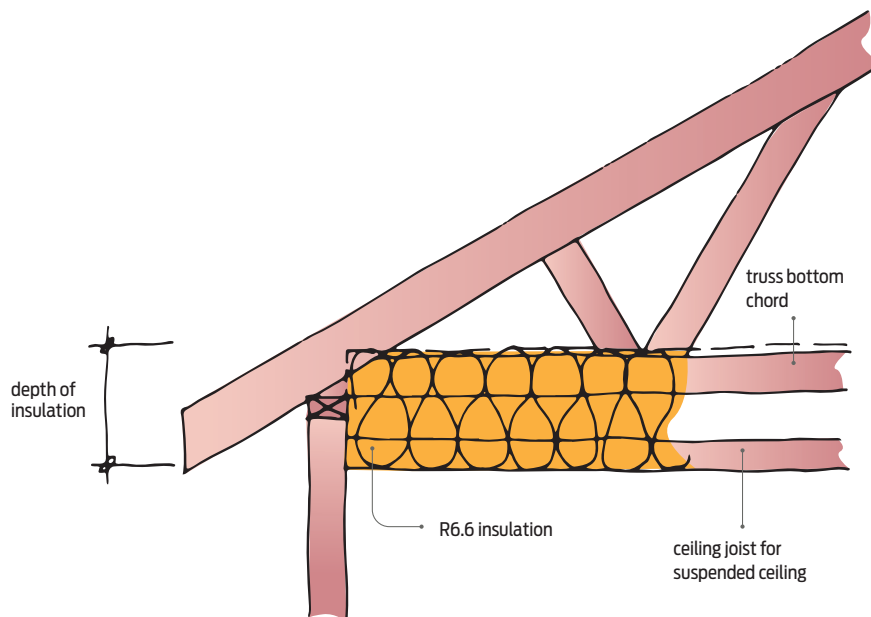

Figure 1: Suspended ceiling below truss.
- Another way to achieve high insulation performance in a roof is using a raised heel (see Figure 1). This is a timber post incorporated at the outer edge of the roof truss between the top and bottom chords, increasing the heel height of the truss and therefore allowing a greater thickness of insulation to be installed. (For more choices, see *H1 and sloping truss roof options* in *Build* 191, pages 40–42.)